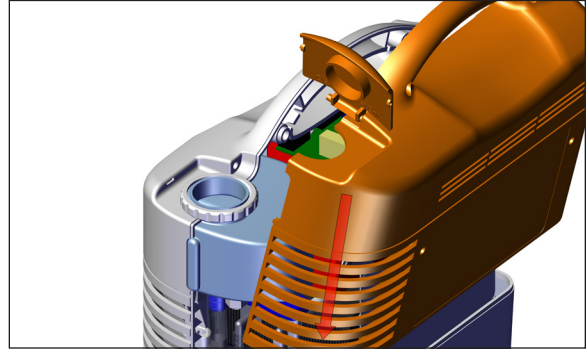

Figure 22 - Step 1 Install enclosure and lid
1. Install enclosure and lid (Figure 22).